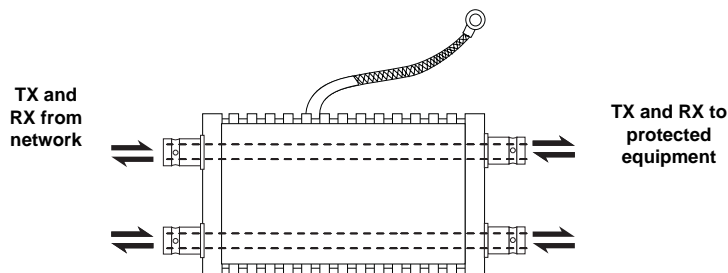

Figure 2. Model 552-E1CX One to One Connection
**NOTE:** The Model 552-E1 CX has two pairs of BNC jacks that connect one to one through the device. See Figure 2 below.